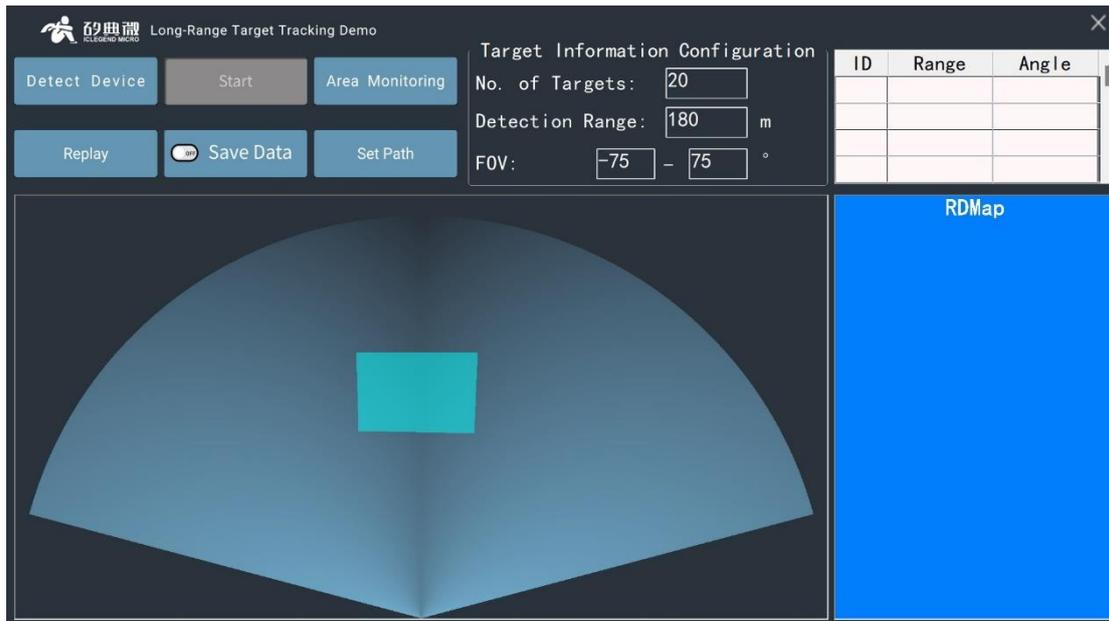

Figure 6-14 Example of a monitoring area
- Step 4: Click the **Add Monitor Area** button on the Area Monitoring window, then in the sector area, click the vertexes of the desired monitoring area in turn (clockwise or anticlockwise, please stick to one method when defining a monitoring area), then right click to finish the process, and all the vertexes will be connected to form a polygon, as shown in Figure 6-14;